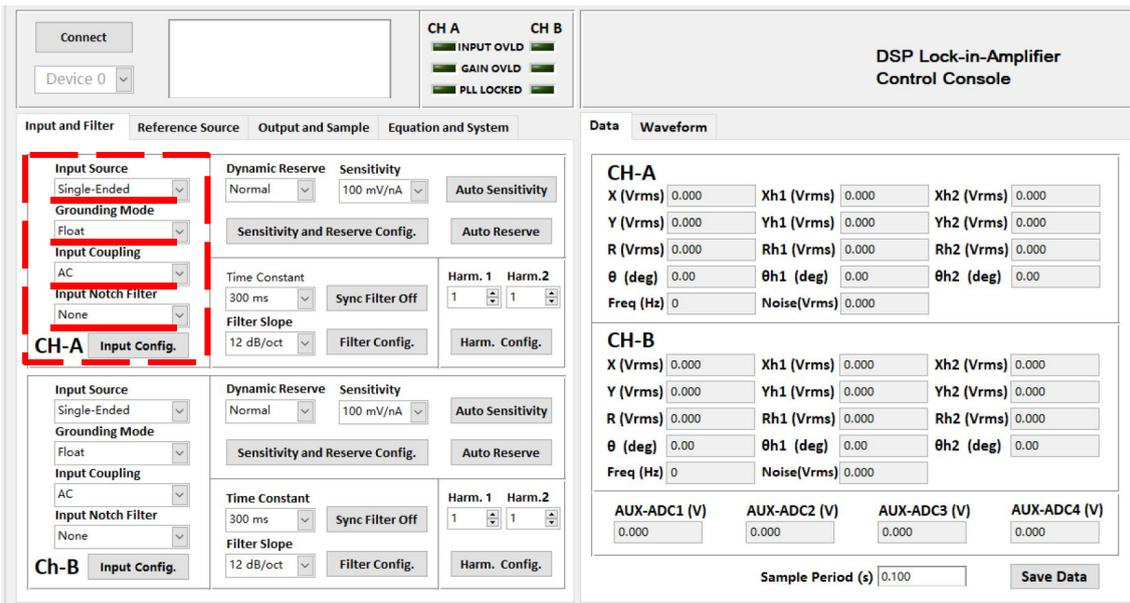

Fig.73 Input Configuration
1. According to Table 13, select suitable options as required in tab page 'Input and Filter', including 'Input Source', 'Grounding Mode', 'Input Coupling' and 'Input Notch Filter'. Leave other options as initial state for now as shown in Fig.73. Click the button